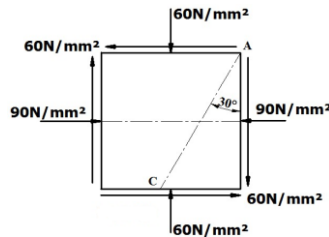

Figure 15
13. The state of stress in two dimensional stressed body is shown in **Figure 15**. Determine principle stresses, principle planes and maximum shear stress .Determine also the normal and tangential stresses on Plane AC .Verify the results by drawing Mohr's circle.